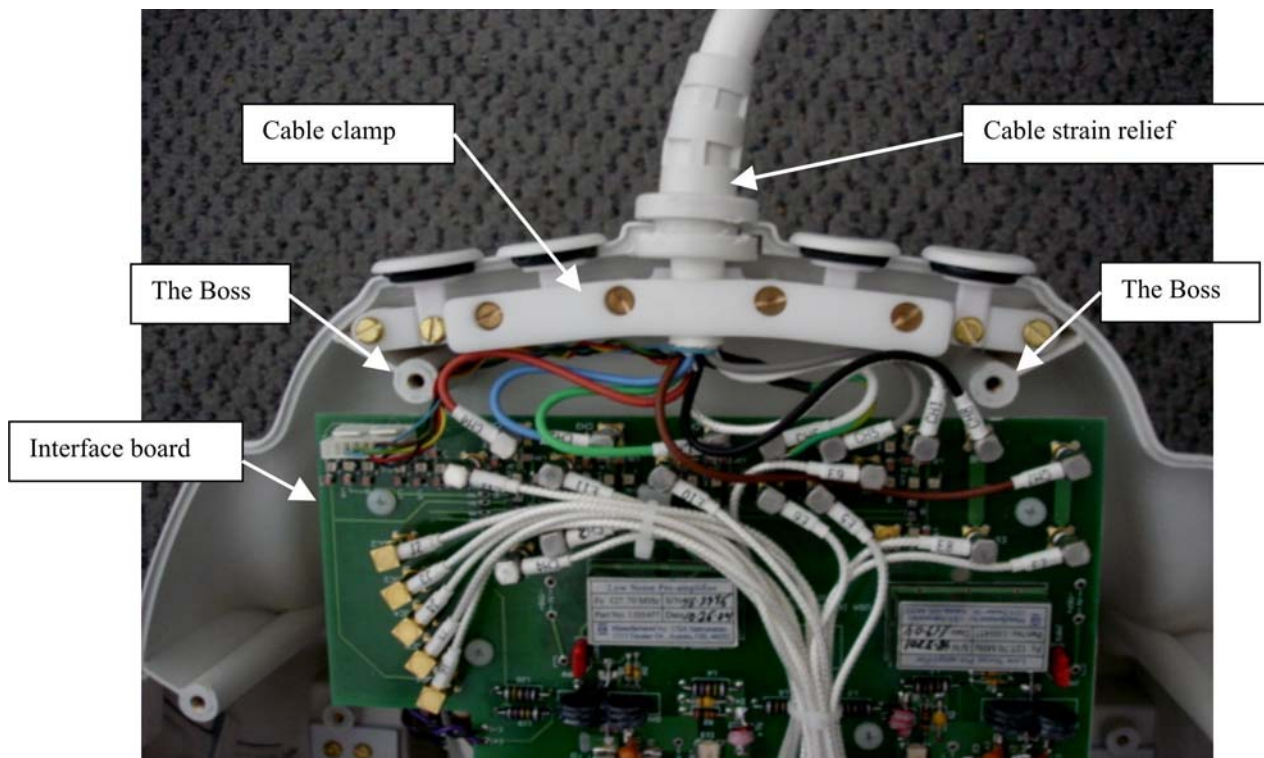
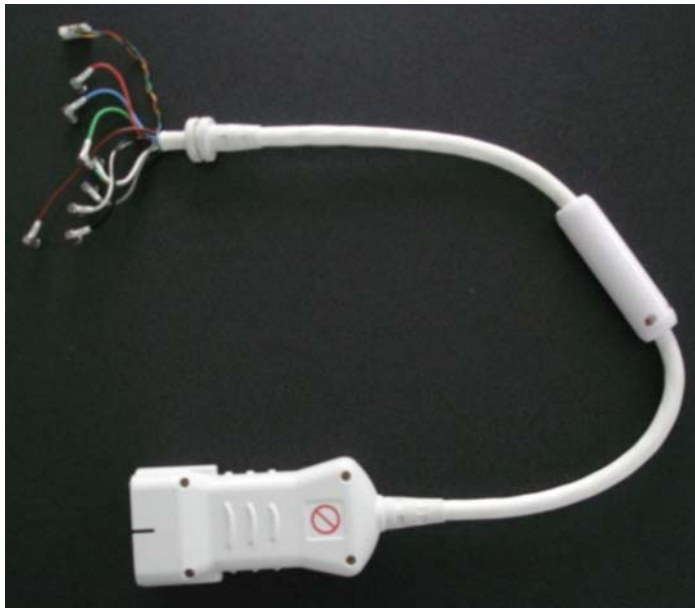
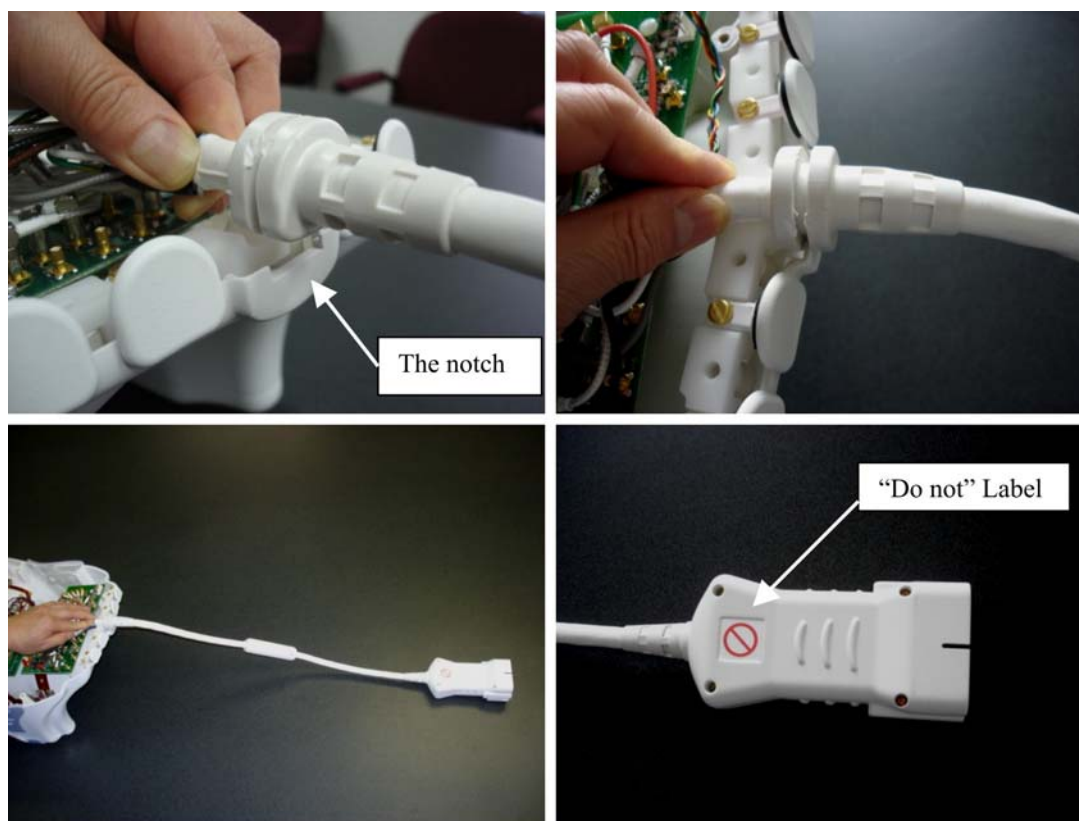

Figure 29: The Connection of the Cable Assembly and the Interface Board
Figure 30: The cable assembly of the CTL coil
Figure 31: Install the cable assembly
Step 2 – Remove the cable clamp that holds down the cable assembly (see *Figure 29*).
Step 5 – Attach the new cable assembly (see *Figure 30*) to the coil and make sure the cable strain relief matches the notch of the former (see *Figure 31*). The side of the cable connector with the “do not” label should face up (see *Figure 31*). If it doesn’t face up, rotate the strain relief. Make sure that the cable clamp holds the cable jacket, and then tighten the cable clamp with the screws. Connect all eight SMB plugs and the DC Plug to the corresponding receptacles on the interface board. The receptacles are marked CH1-8 to correspond with the labels on the cables. Do not route RF cables and DC wires above the bosses shown in *Figure 29* because the corresponding bosses on the bottom cover will squeeze the cables and DC wires when the bottom cover is closed.